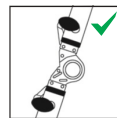

Fig. 39
- The ladder must be set up with the correct climbing side. (Fig. 39, 40)